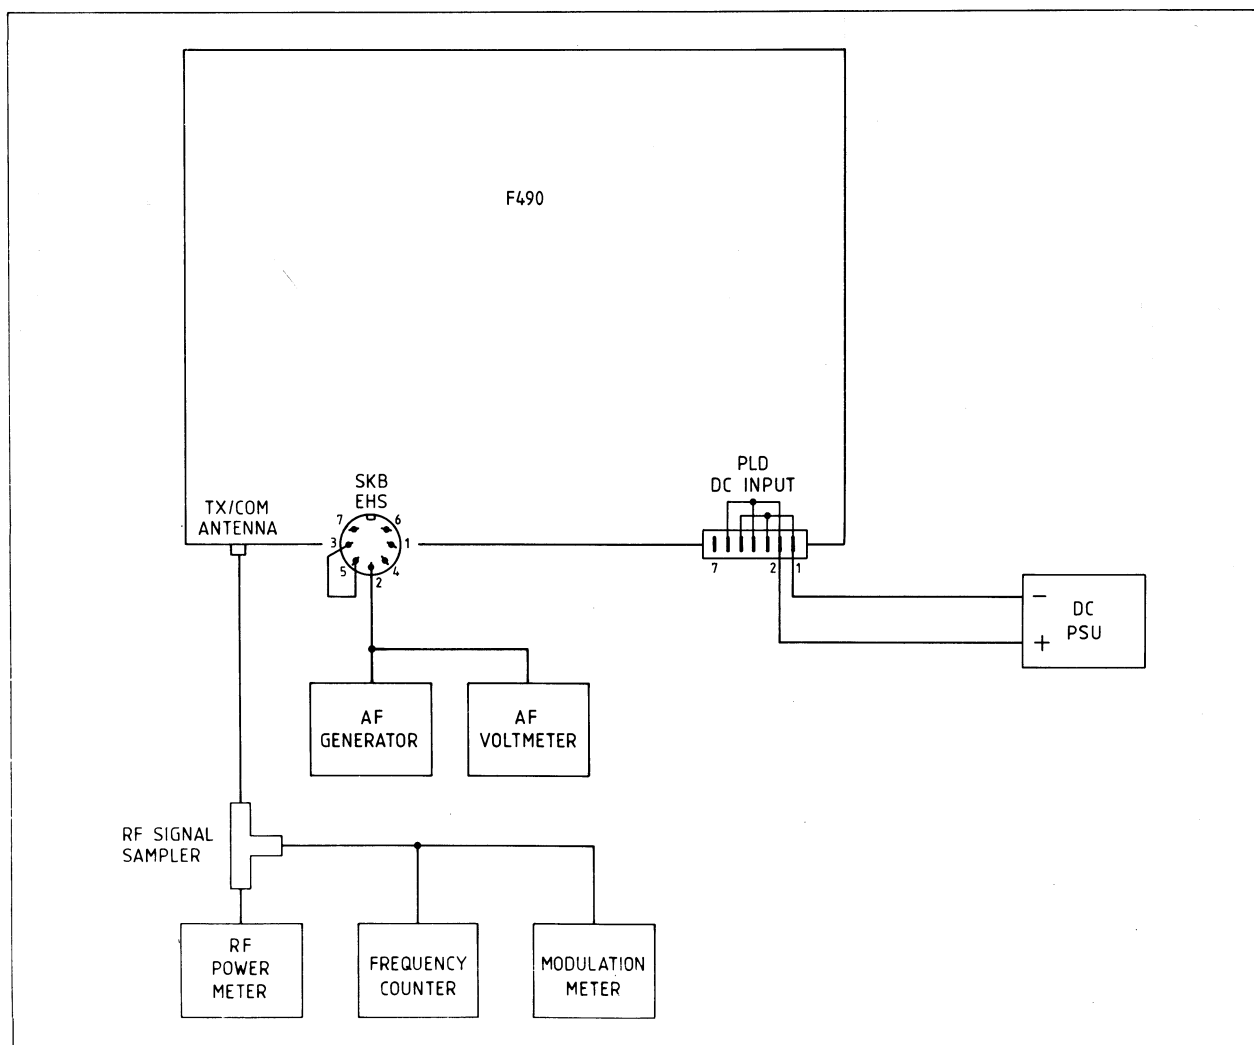

Fig 4.4 Transmitter Test Circuit
- (a) Connect test equipment as shown in Fig 4.4.